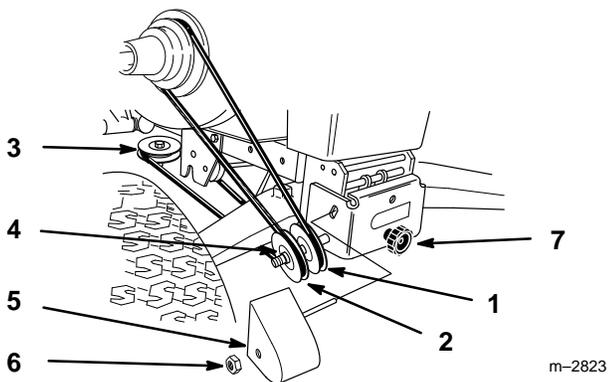

Figure 29
7. Route belt around V and flat pulleys and loop over center mower spindle, top pulley.(Fig. 29).
8. Check that spacer is on shaft and install belt cover with rod in hole. Secure with locknut (Fig. 29).
9. Turn knob counterclockwise to tighten belt (Fig. 29). Tighten until there is 1" (26 mm) belt movement between engine clutch and idler pulley when slight pressure is applied to the belt.